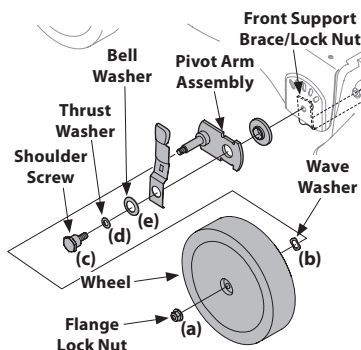

Figure 21
- Remove the flange lock nuts (a), front wheels, and wave washers (b) that attach to the pivot arm assemblies. See Figure 21.